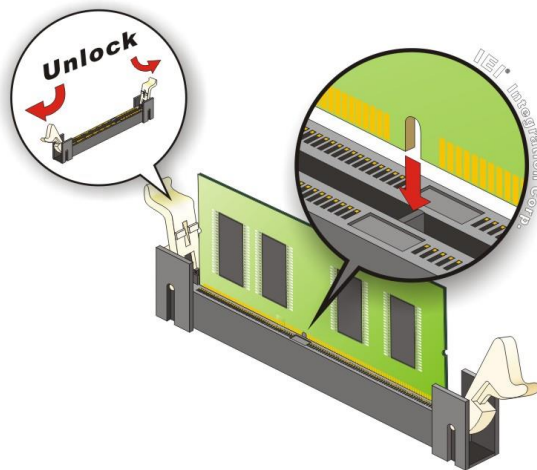

Figure 4-7: SO-DIMM Installation (DDR4)
To install a SO-DIMM, please follow the steps below and refer to Figure 4-7.
- Step 1: Open the SO-DIMM socket handles.** Open the two handles outwards as far as they can. See Figure 4-7.
- Step 2: Align the SO-DIMM with the socket.** Align the SO-DIMM so the notch on the memory lines up with the notch on the memory socket. See Figure 4-7.
- Step 3: Insert the SO-DIMM.** Once aligned, press down until the SO-DIMM is properly seated. Clip the two handles into place. See Figure 4-7.